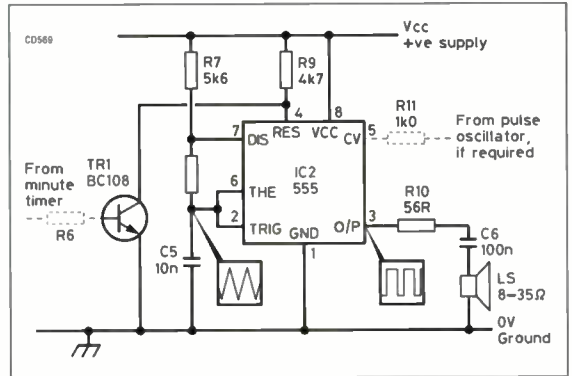
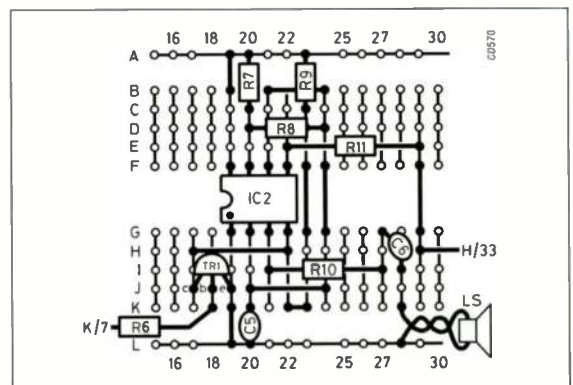

Fig 1.3. The circuit of an AF oscillator to be set up on a prototype board
Fig 1.4. Layout of the components for the circuit in Fig 1.3
The method of use is reasonably straightforward and is illustrated in Fig 1.3 which shows a simple circuit using an integrated circuit (555) as an AF oscillator. The practical layout of the components on a prototype board is shown in Fig 1.4. More information on this technique and a simple project is to be found in the November 1991 issue of the RSGB's journal *Radio Communication*.